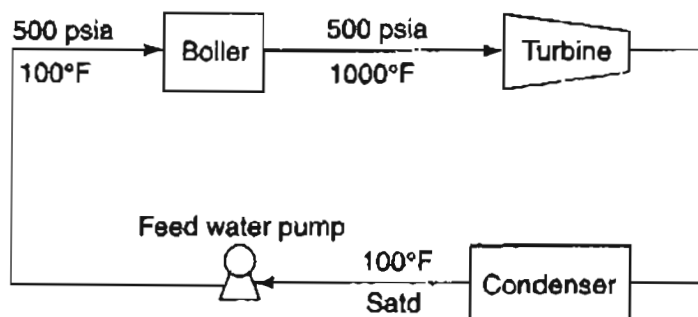

Figure P27.13
- *27.13 A power plant is as shown in Figure P27.13. If the pump moves 100 gal/min into the boiler with an overall efficiency of 40%, find the horsepower required for the pump. List all additional assumptions required.